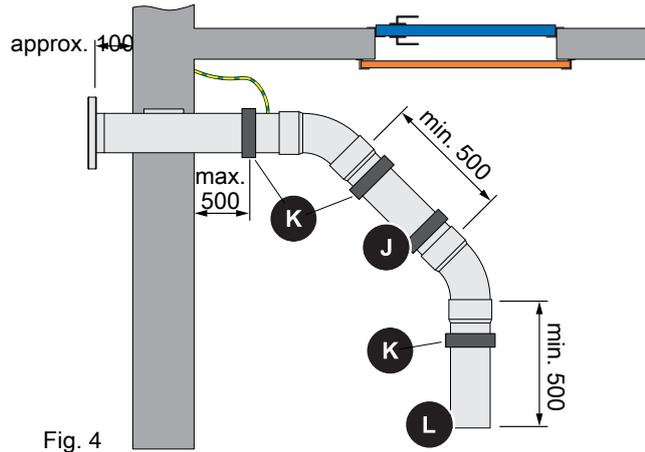

Fig. 4
- Embed or enclose the filling couplings in the wall leaving a distance of approx. 100 mm from the wall (Fig. 4). The rotation protection must be positioned within the wall
Extension and attachment of the filling couplings (Fig. 4)